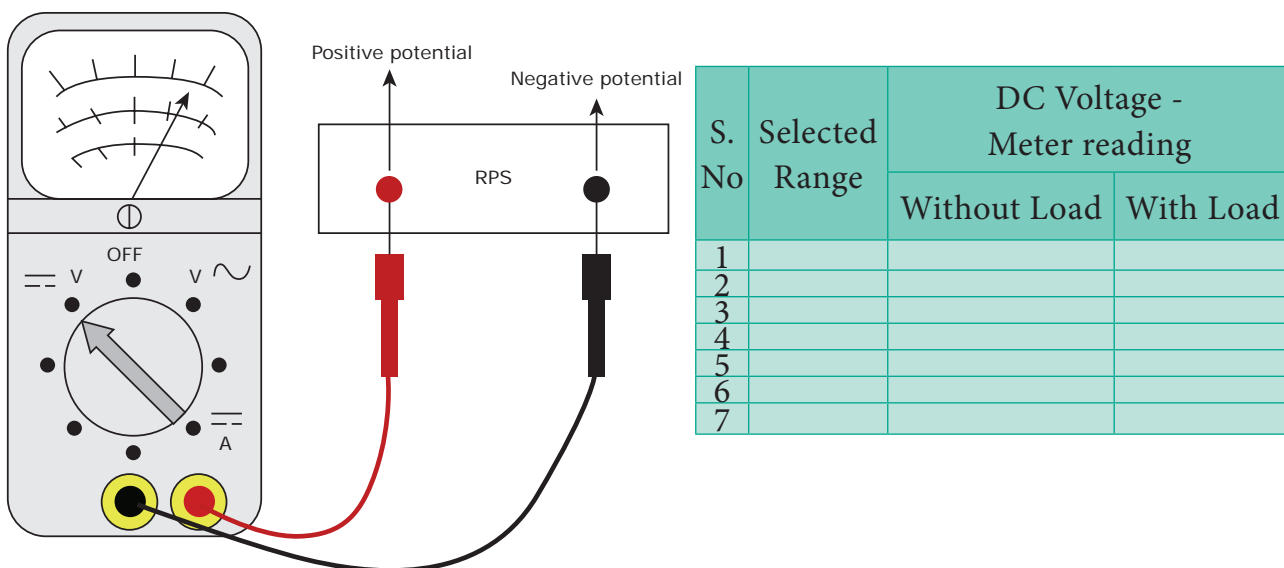

Fig 3.1 Measurement of DC voltage
- 1. Connect the Regulated Power Supply (RPS) with Multimeter as shown in Fig 3.1.